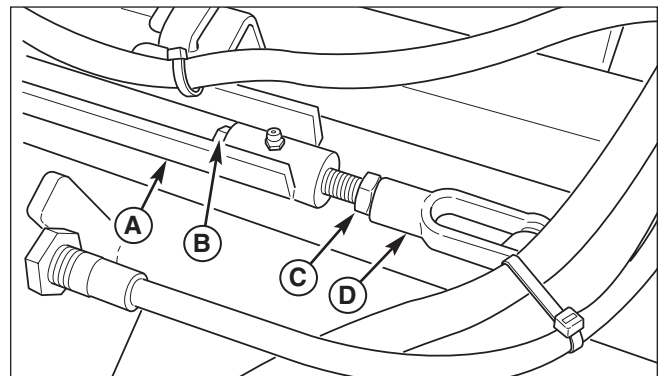

Figure 41. Center Lift Link Adjustment
7. Raise the seat plate to access the center lift link (A, Figure 41).
8. Loosen the jam nut (C) on the lift clevis (D) and turn the adjuster bolt (B) until the measurements are equal. Tighten the jam nut against the lift clevis.